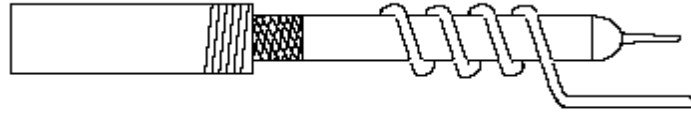

Figure 4: Low-Loop-Inductance Scope Probe Tip
1. You should use a low-loop-inductance scope probe tip, similar to the probe tip illustrated in Figure 4, to measure signals.